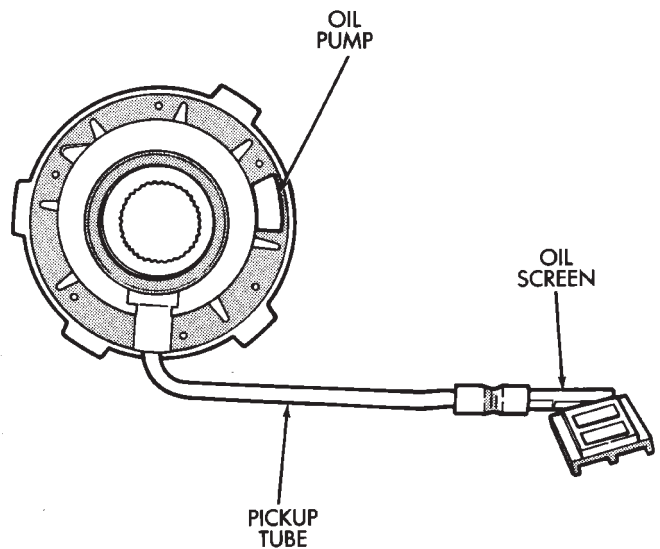

Fig. 8 Removing Oil Pump, Pickup Tube And Screen
- (14) Remove oil pump, pickup tube and oil screen from rear case (Fig. 8).
- (15) Remove pickup tube and screen from pump.